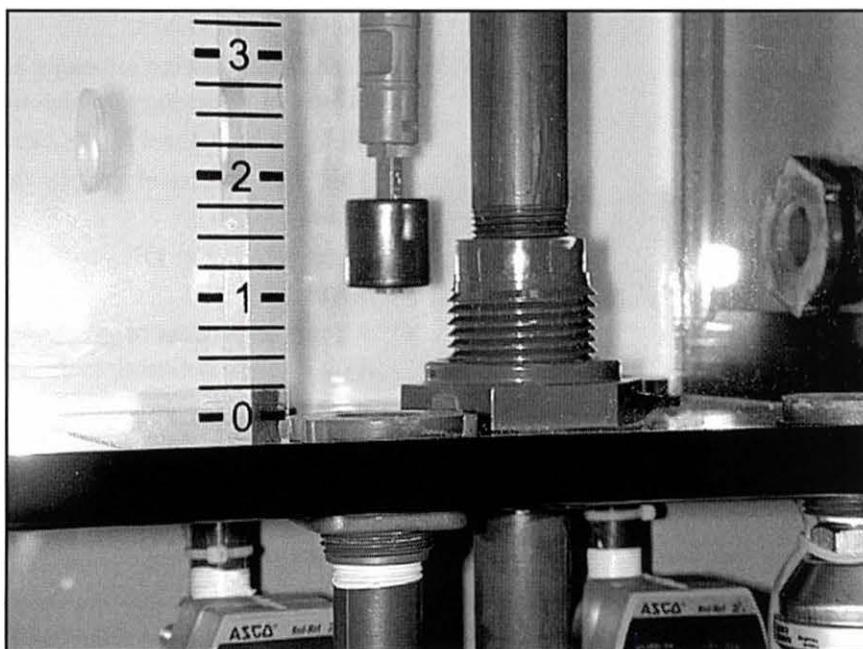

Figure 22. Level Switch at 1-Inch Mark
- B. Move LS1's shaft so that the bottom of the switch is even with the 1-inch mark, as shown in figure 22. Then tighten the adjustment screw to lock it in position. This is the lower level.